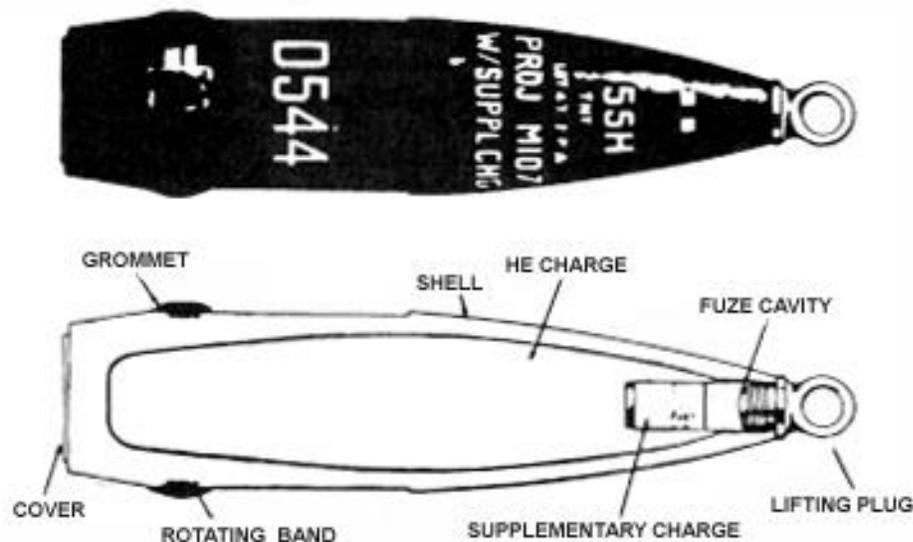

Figure 2-14. 155-mm HE, M107 round
b. **Projectile, 155-mm, HE, M107.** Used mainly for blast, fragmentation, and cratering, this normal or deep-cavity projectile consists of a steel case loaded with either TNT or composition B. Point detonating time, or VT fuzes may be used (Figure 2-14).